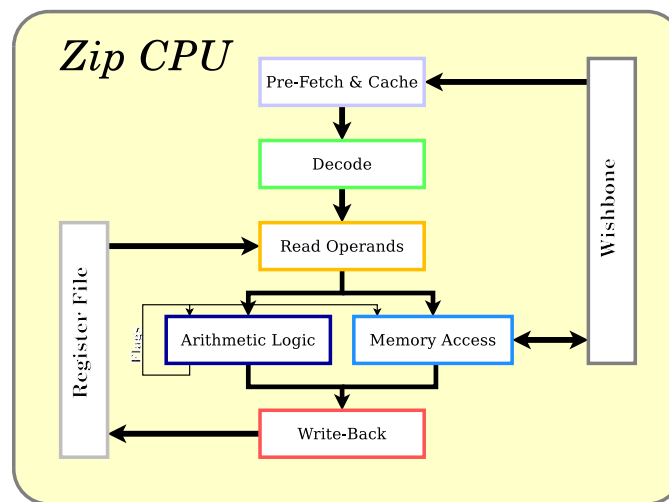

Figure 1.1: Zip CPU internal pipeline architecture
- A pipelined architecture, having stages for **Prefetch**, **Decode**, **Read-Operand**, the **ALU/Memory** unit, and **Write-back**. See Fig. 1.1 for a diagram of this structure.